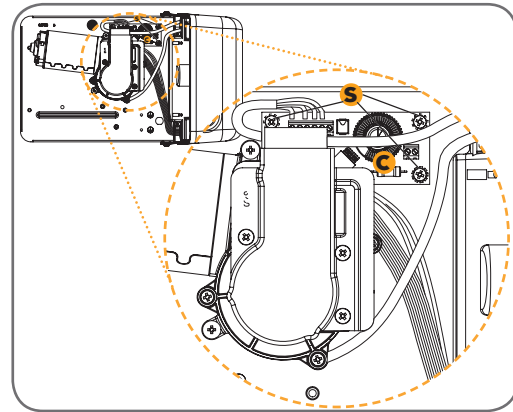

Fig 14
4. Use accessory pack 01 .Fix the Charger Board "C" under the timing assembly using three M4x8 screws (Fig. 14) at the location marked "S".